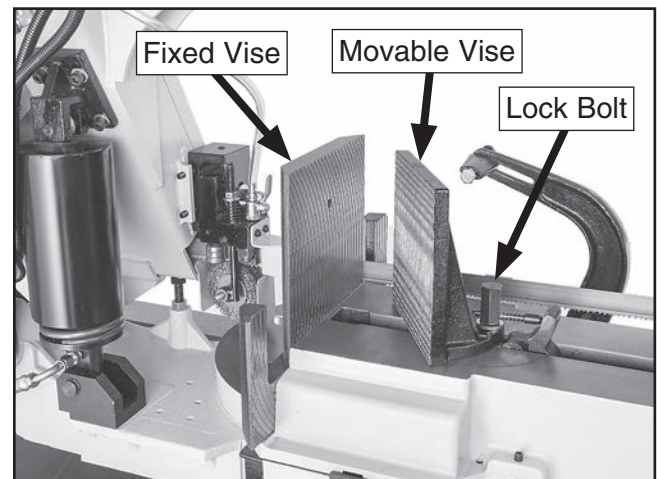

Figure 47. Movable vise positioned for angled workpiece.
1. Loosen lock bolt shown in **Figure 47** on movable vise so jaw can match angle of workpiece and fixed jaw.